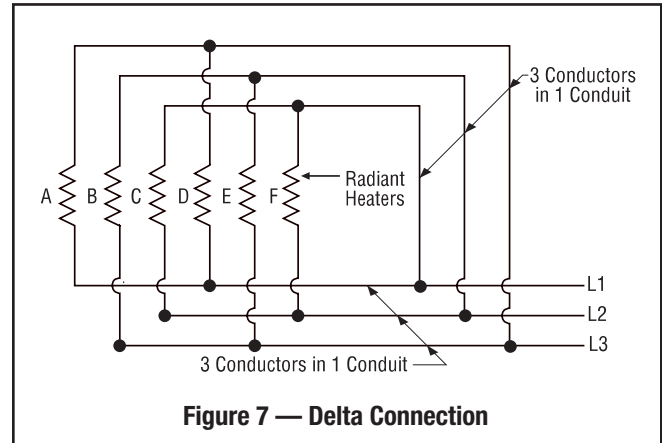

Figure 7 — Delta Connection
- DELTA CONNECTIONS** — When heaters occur in multiples of three, they may be connected to, and balanced across, three-phase lines. The most commonly used connection is the Delta connection illustrated in Figure 7.